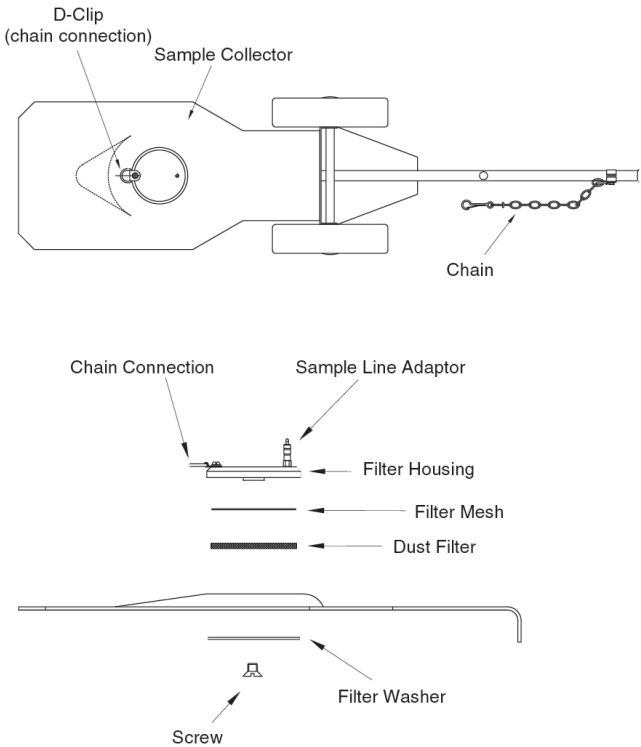

Figure 4.3 Carpet Probe Filter Assembly
- 2) Remove the screw that attaches the filter washer to the filter housing assembly. See Figure 4.3 illustrating exploded view of filter and housing assembly